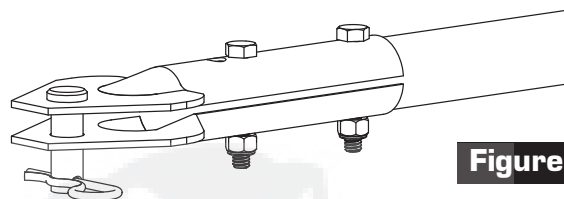

Figure 8
11. Install Hitch Plates to end of Tow Bar using 1/4-20 x 1-3/4" Bolts and 1/4" Nylon Insert Locknuts, Figure 8. Install Hitch Pin and Large Cotter Pin, Figure 8.